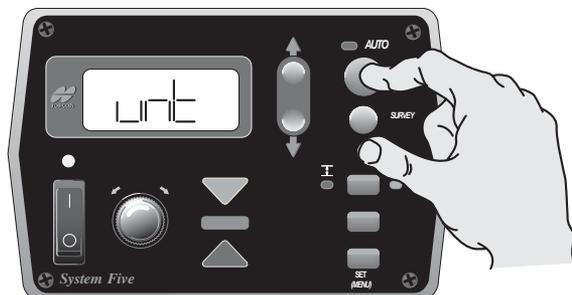

Figure 4-41. Select Units
1. From the Performance Menu, press the Auto button to select Units (Figure 4-41).